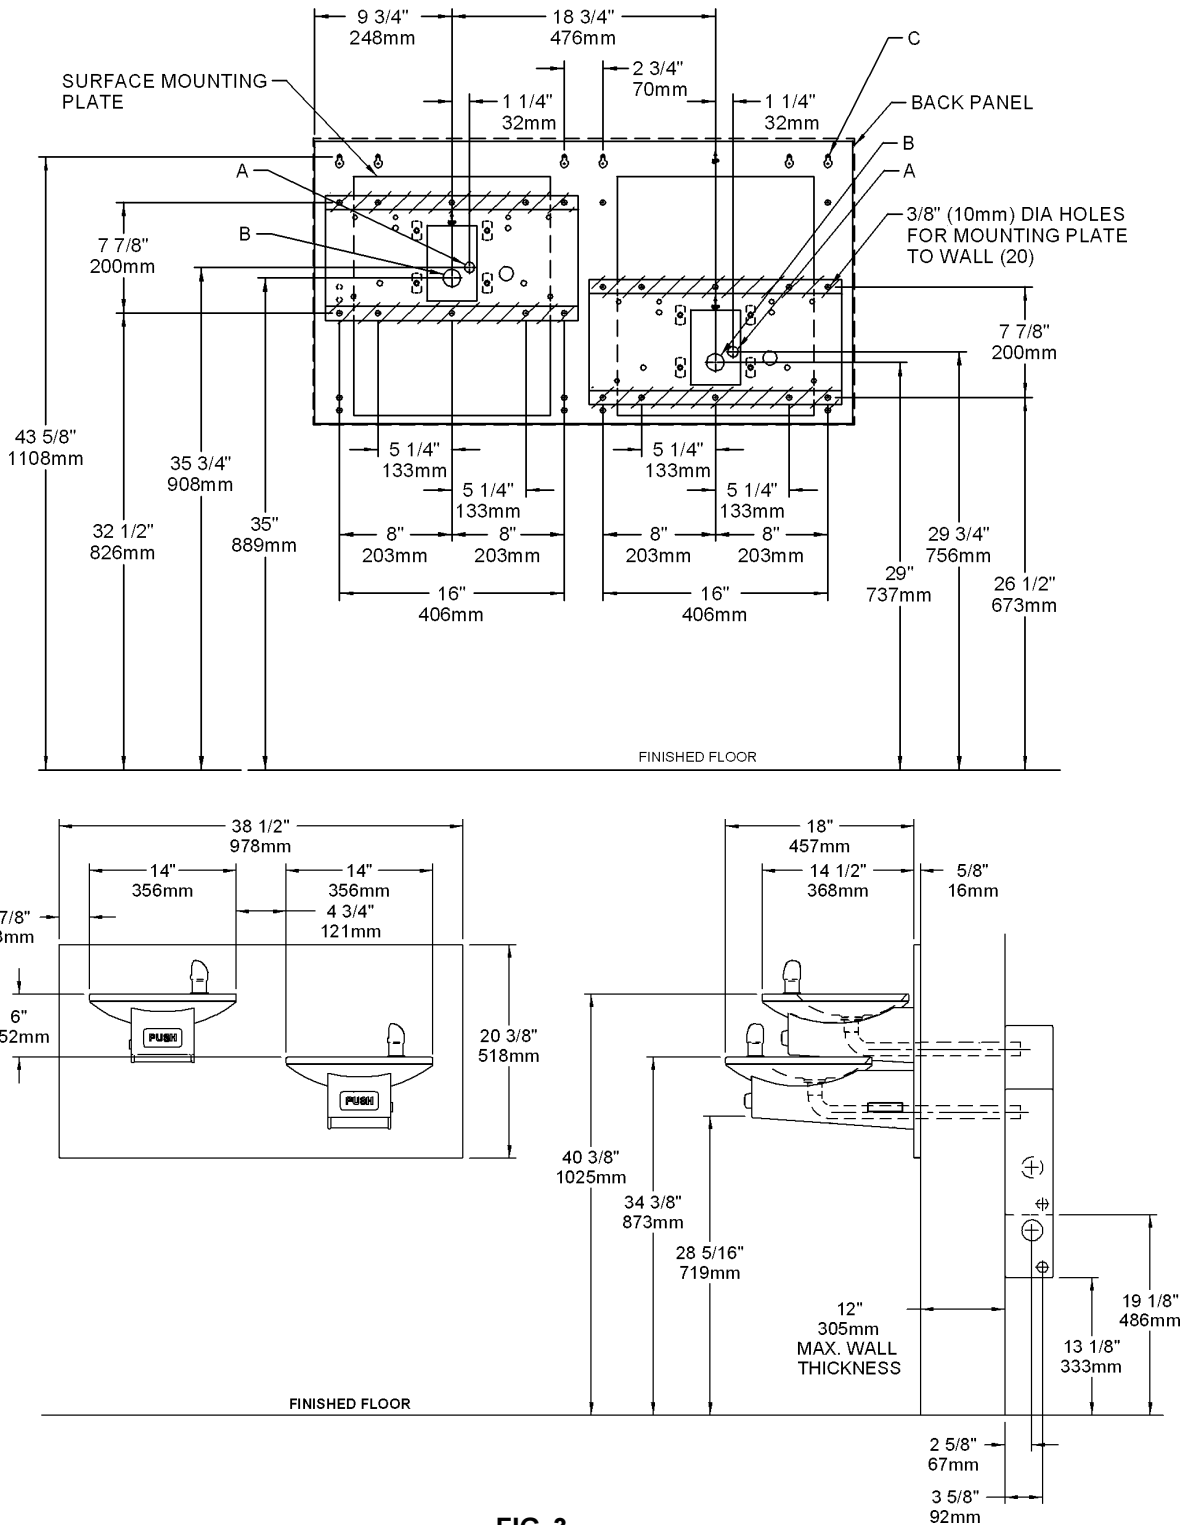

FIG. 3
- 1. Wall** should already be framed for the fountain using the positioning dimensions shown in Figure 3 & 4. Shown dimensions pertain to installation location (framing must support up to 300 lbs. weight). These dimensions are required for compliance with ANSI Standard A117.1/ADA requirements.